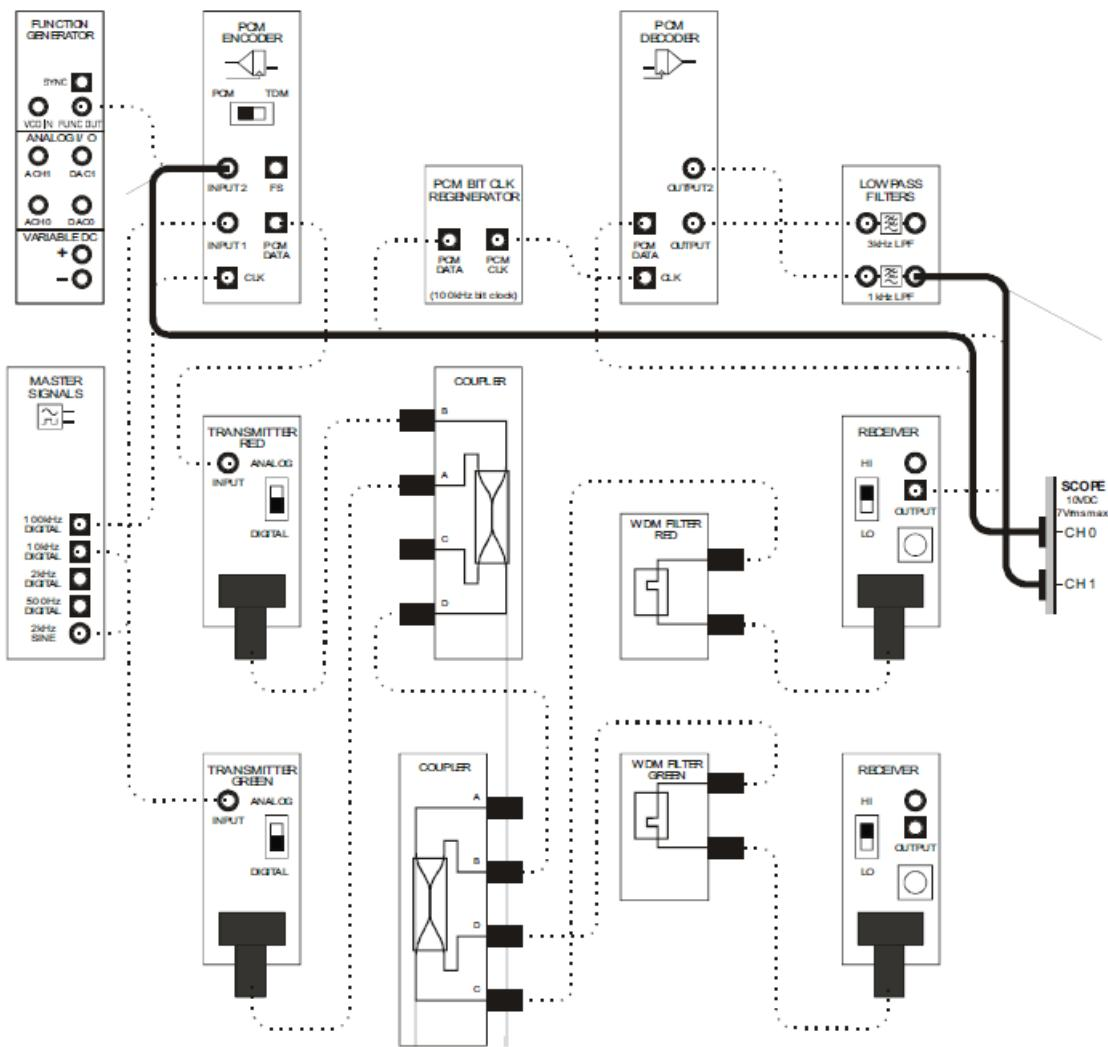

Figure 13
44. Modify the scope's connections to the set-up as shown in Figure 13 on the next page.